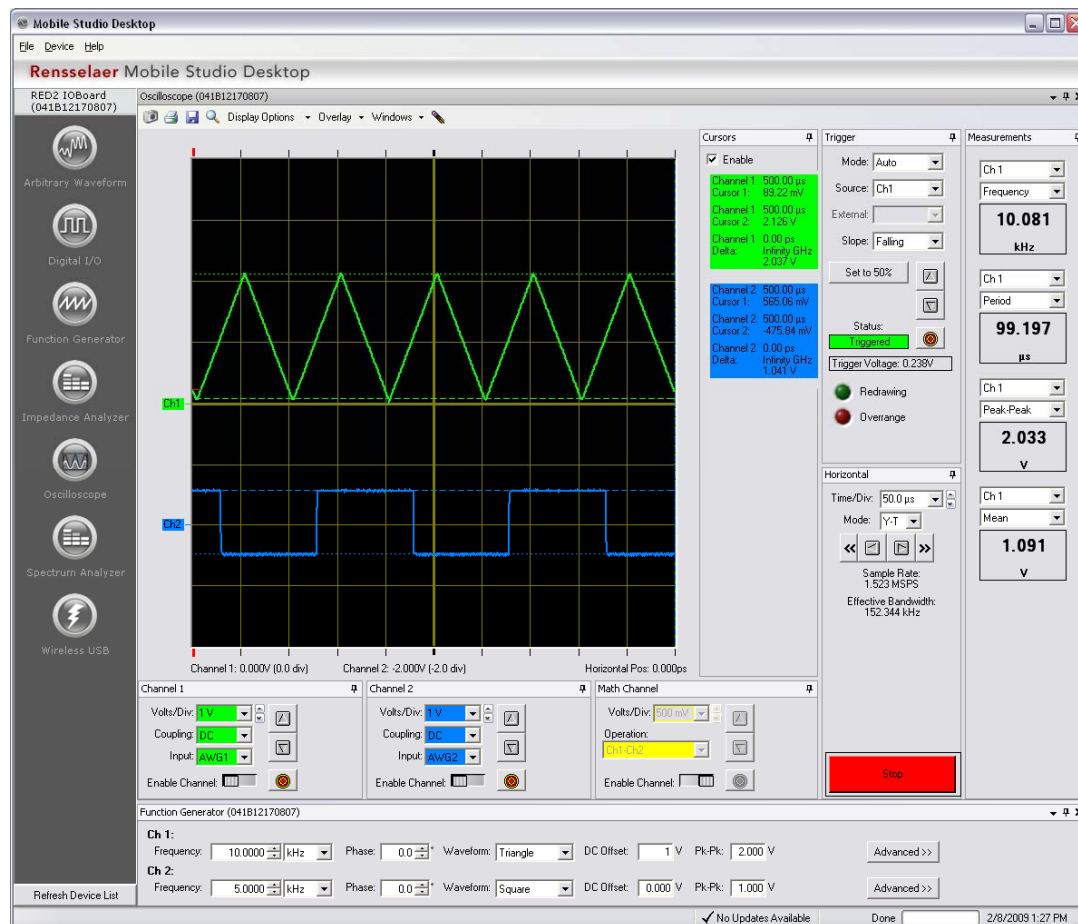

Figure 2.5: Cursor Measurements
- 8) Checking the “Enable” box will display the cursors for the channels being shown. Clicking and dragging the green and blue lines will allow the user to position the cursors to their desired location for taking measurements. The numerical values are displayed in the panel as well as the automatically calculated delta between each pair of cursors. These functions are displayed in Figure 2.5.